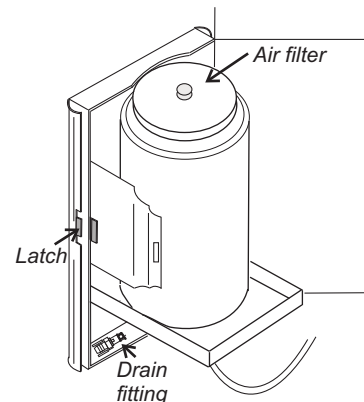

Figure 1-13. Water Bottle
2. Open the access door located on the front of the unit, below the control board. See Figure 1-13.